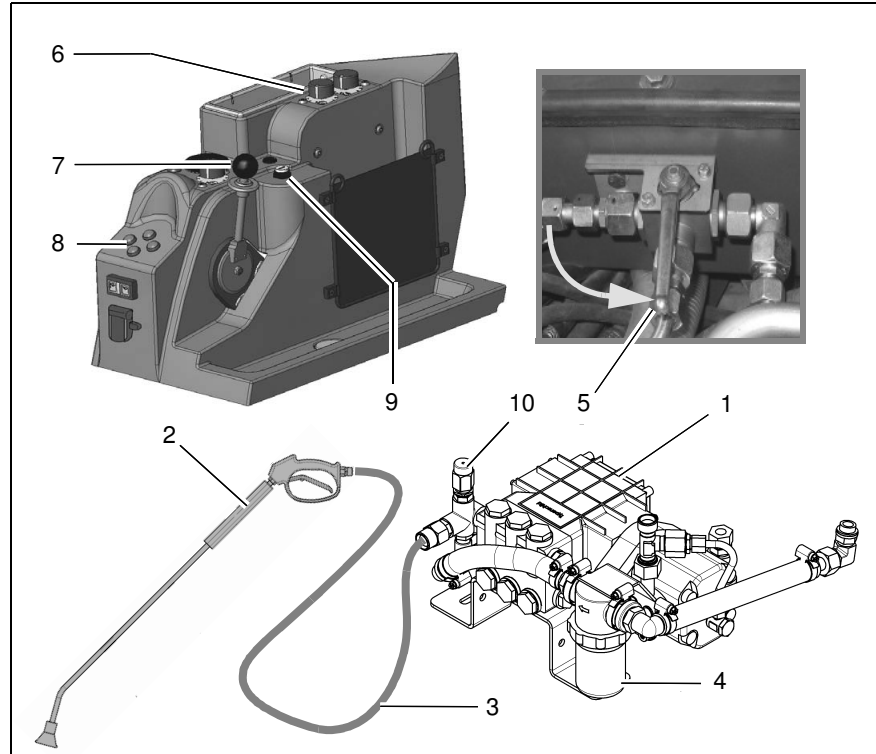

Fig.24
Turn off the engine before connecting the high pressure washer (Fig. 24/1)!
- Check the water filter (Fig. 24/4)
- Turn the switch valve (Fig. 24/5) at the terminal box to high pressure washer operating mode
- Install the high pressure hose (Fig. 24/3) between the high pressure washer (Fig. 24/1) and the spray lance (Fig. 24/2).
1. Start up the engine with the ignition switch (Fig. 24/9).
2. Turn the adjustment lever (Fig. 24/7) to the preferred engine speed.
3. Adjust the speed of the circular brushes (Fig. 24/6) to the maximum speed.
4. Lower the front attachment by pressing the button (Fig. 24/8) (high pressure washer is switched on).
5. The working pressure can be pre-adjusted with the pressure controller (Fig. 24/10).